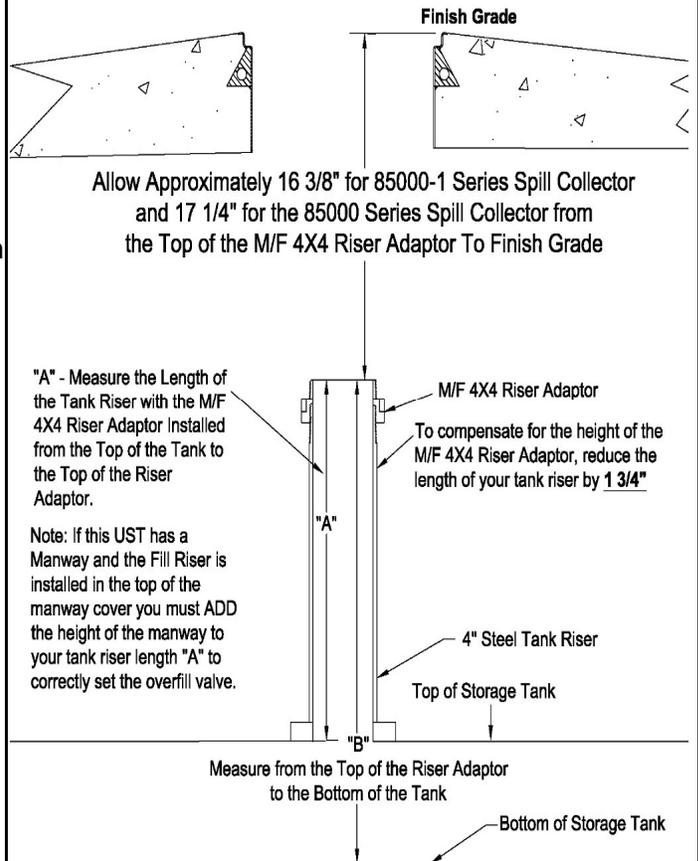

Figure 1
STEP 2 Determine the total height of the Fill (product) riser height with the M/F 4X4 riser adapter installed. See **Figure 1**, Measurement "A"
(See Figure 1)